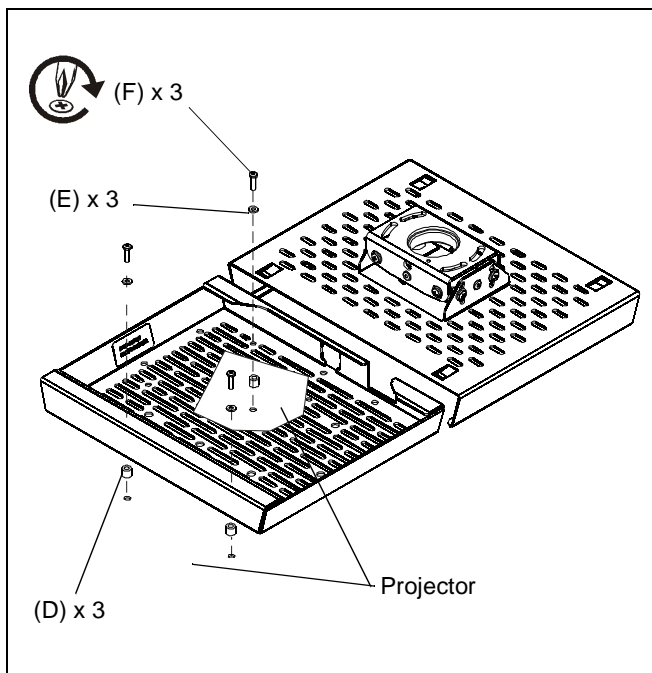

Figure 6
1. Align projector and security mount drawer so that the projector is oriented correctly and mounting holes are aligned. (See Figure 6)
2. Secure projector to mount using three Phillips head machine screws (F), three flat washers (E) and three spacers (D). Spacers should be placed between projector. (See Figure 6)